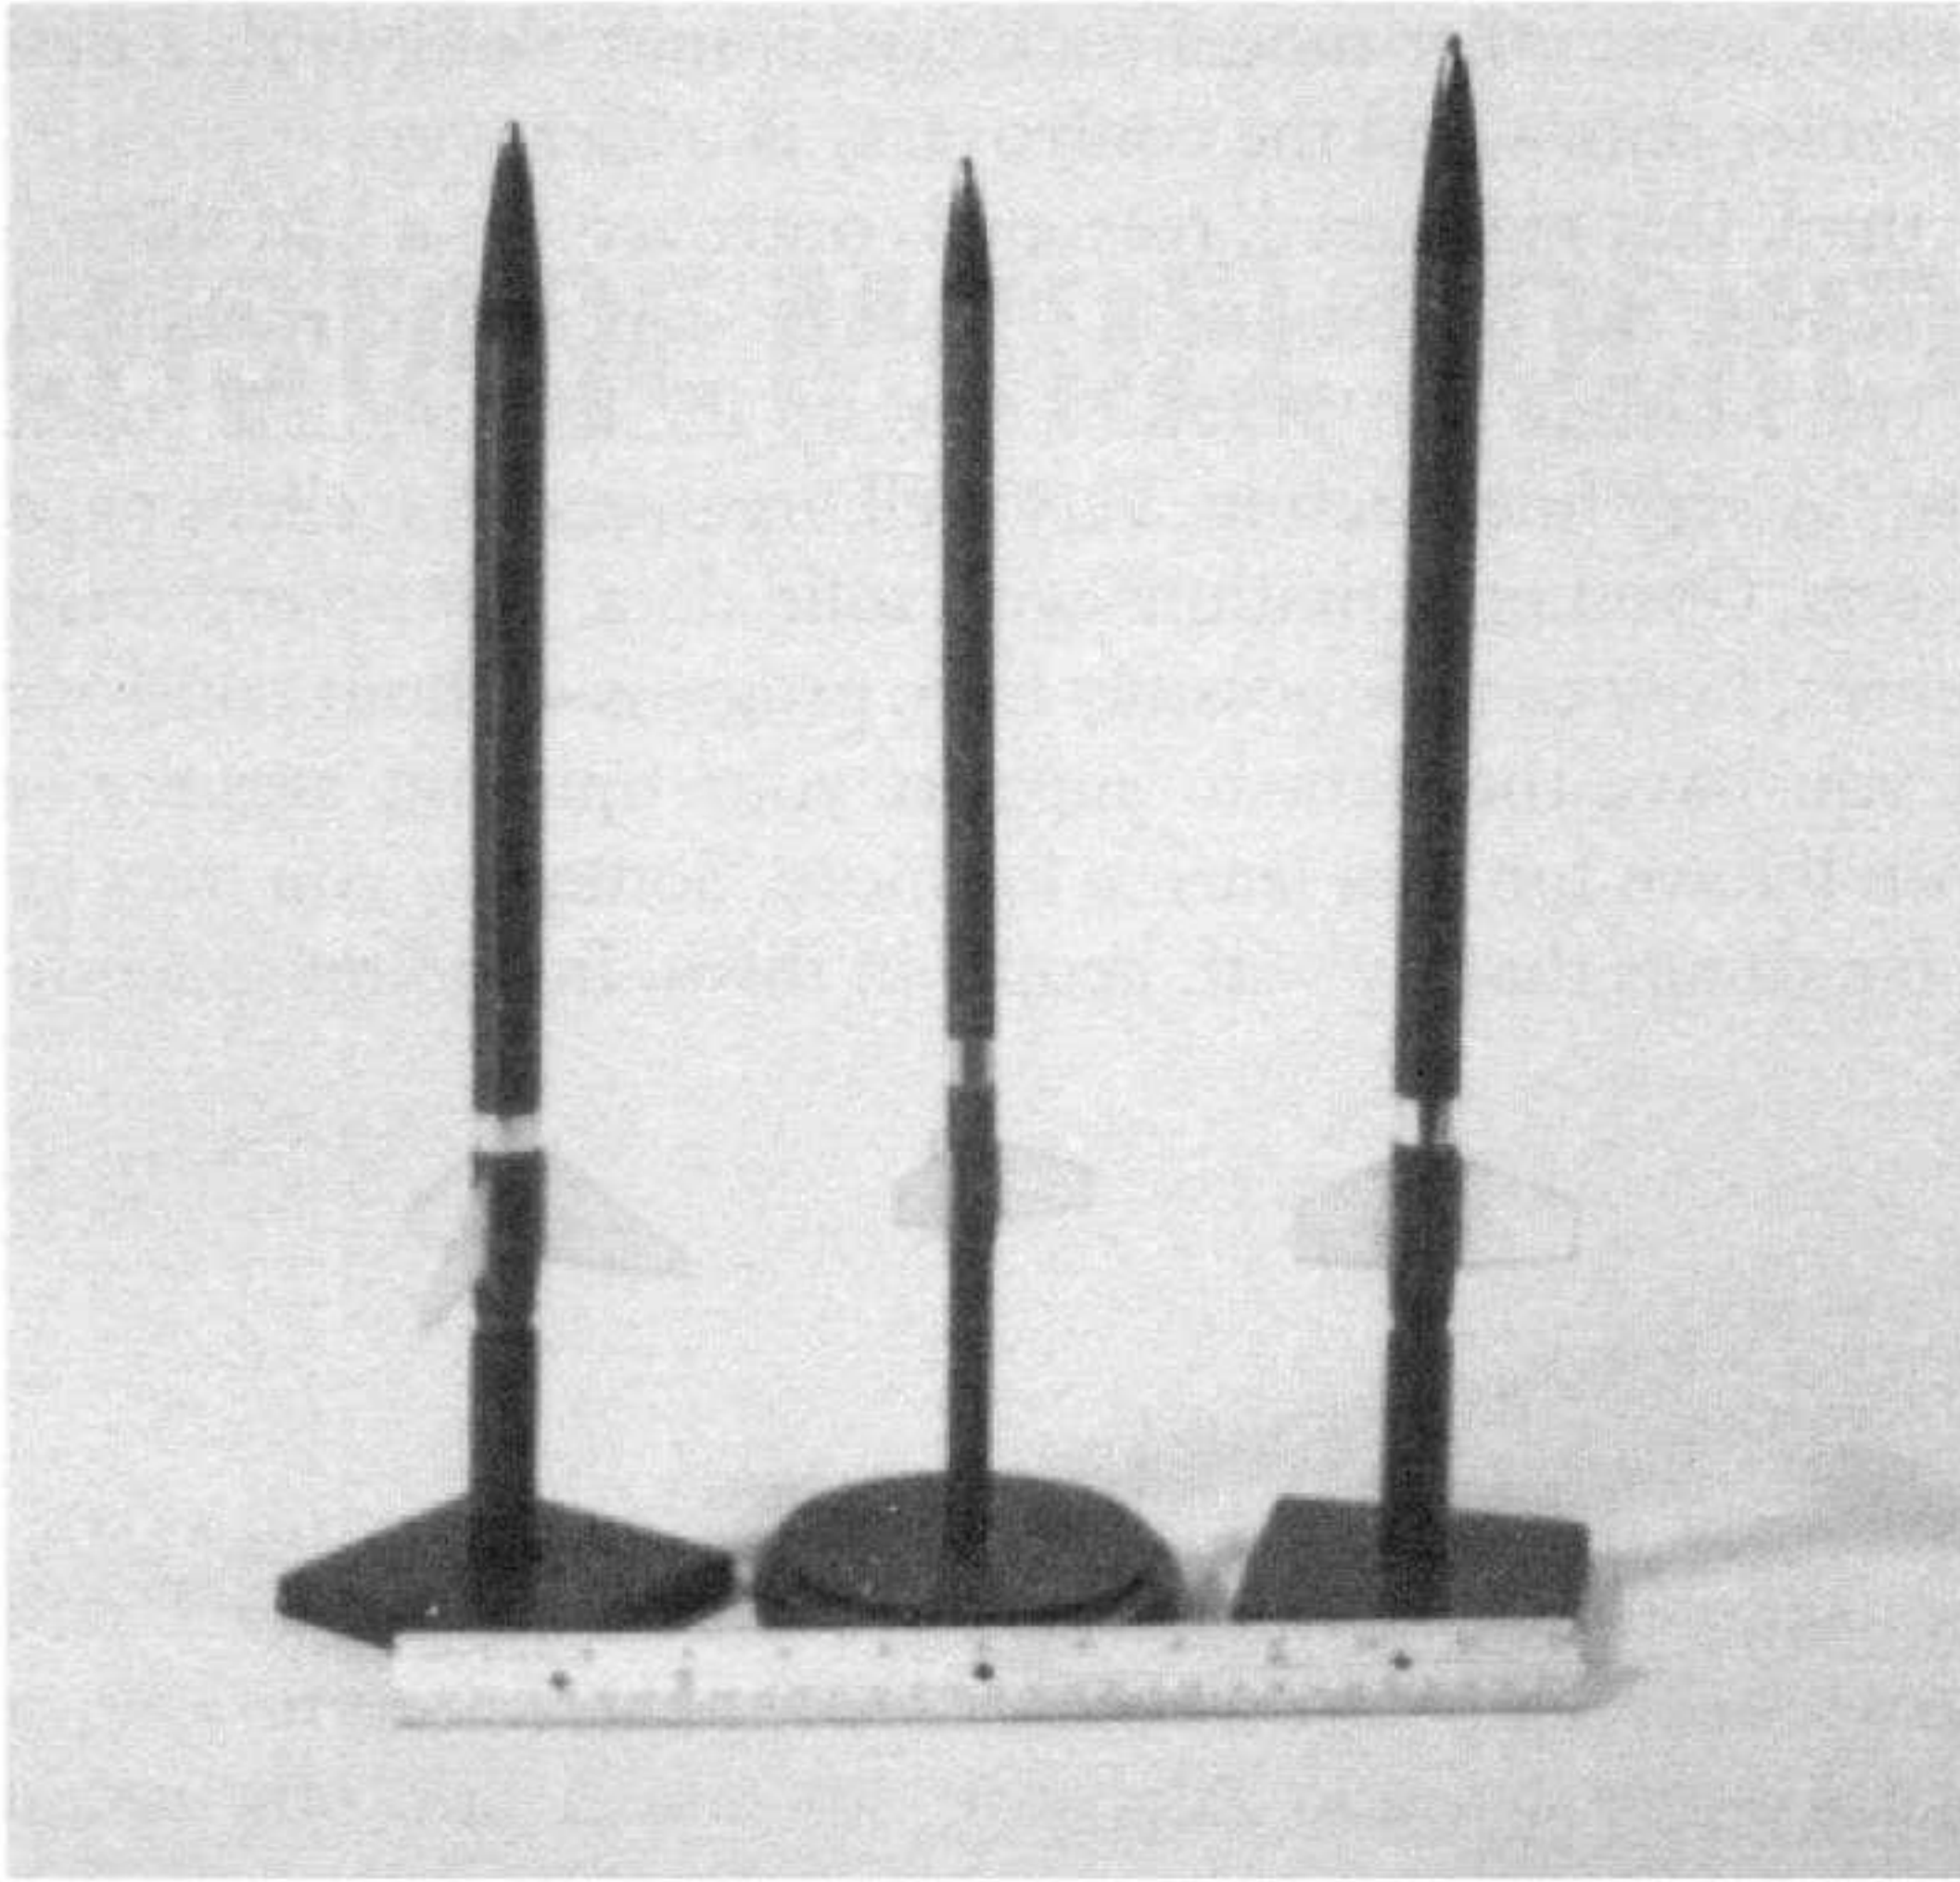

FIGURE 10-15 Some low-drag, high-performance contest model rockets. Fins are made from a very thin, semitransparent fiberglass sheet.
extends from it. The extension of the motor casing beyond the aft end of the body tube serves two functions: (1) It makes it easy to grasp the motor casing to extract it from the model after the flight, and (2) the extension acts like an extension of the body tube to reduce interference drag by smoothing the flow aft of the fins. The model should have a shiny, mirrorlike surface with all balsa grain and body tube spirals filled. To prove that this idealized model rocket is something that can be built, Figure 10-15 shows some competition and sporting designs.